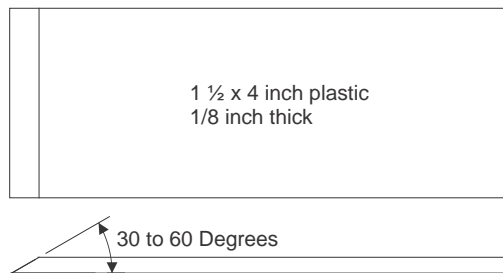

Figure 26. Plastic Wedge
5. Create a wedge from a piece of 1/8 inch thick plastic (see Figure 26). Use a belt sander to bevel one edge approximately 30 to 60 degrees.